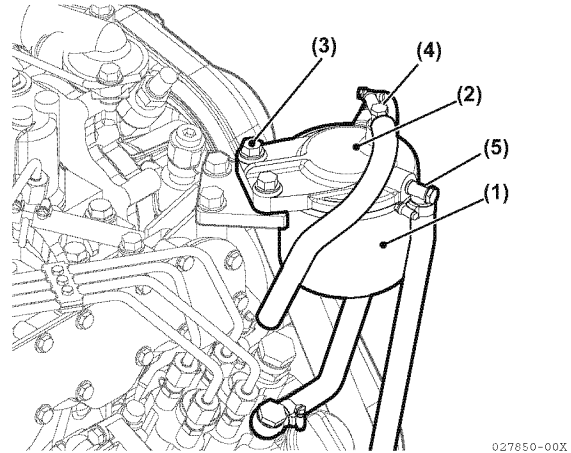
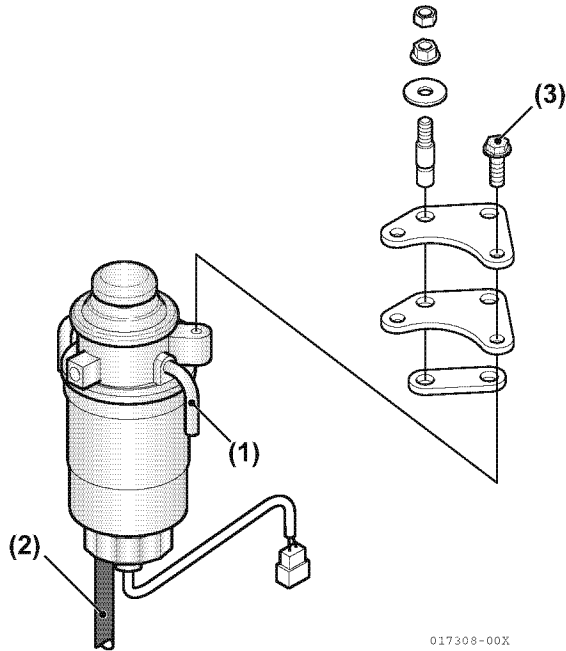

Figure 6-73
Figure 6-74
3. Loosen inlet (Figure 6-73, (5)), (Figure 6-74, (1)) and outlet (Figure 6-73, (4)), (Figure 6-74, (2)) hose clamps and remove hoses from filter.
4. Remove bolts (Figure 6-73, (3)), (Figure 6-74, (3)).